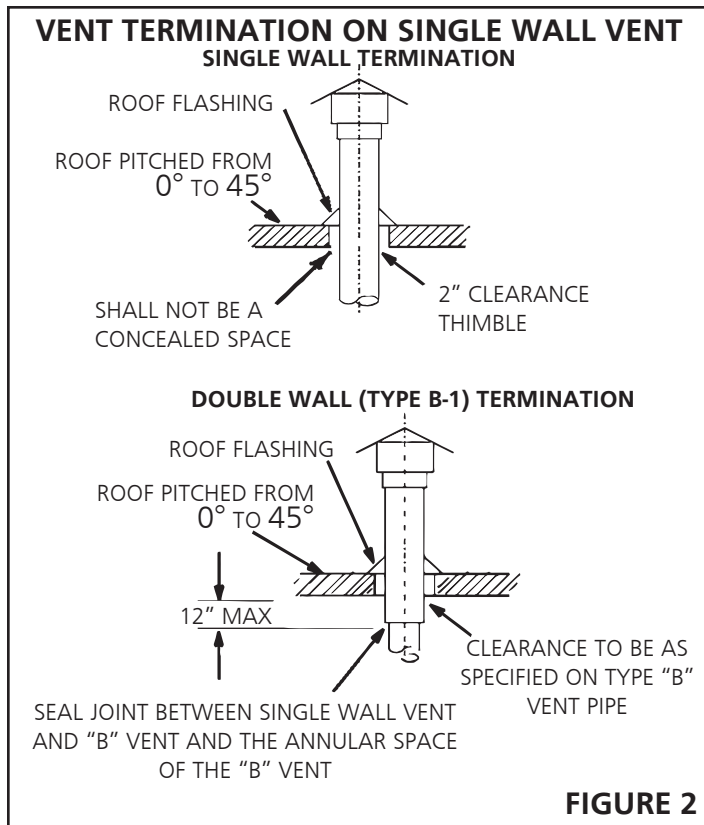

FIGURE 2
1. **US:** MHU unit heaters are to be used with NFPA- or ANSI-approved chimneys, U.L. listed type B-1 gas vents, single wall metal pipe, or listed chimney lining system for gas venting where applicable, as well as the modifications and limitations listed in figure 2. Seal single wall vent material according to the section A - General Recommendations and Requirements.
8. When termination is routed through an exterior combustible wall the vent must be supported using a listed clearance thimble. Seal the connection between the single wall and double wall pipes and the annular space of the double wall pipe as shown in figure 2. Inside edge of vent termination tee must be at least 12 inches from outside wall as shown in figure 3.